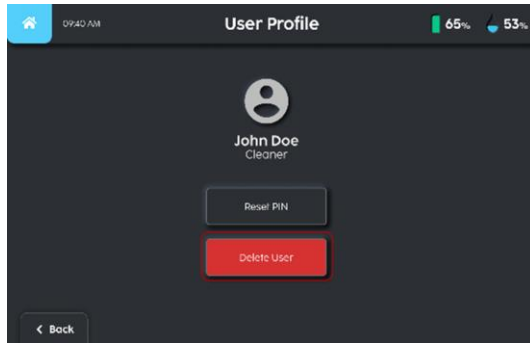

FIGURE 3-28
2. Select 'Delete user' (Fig 3-28).